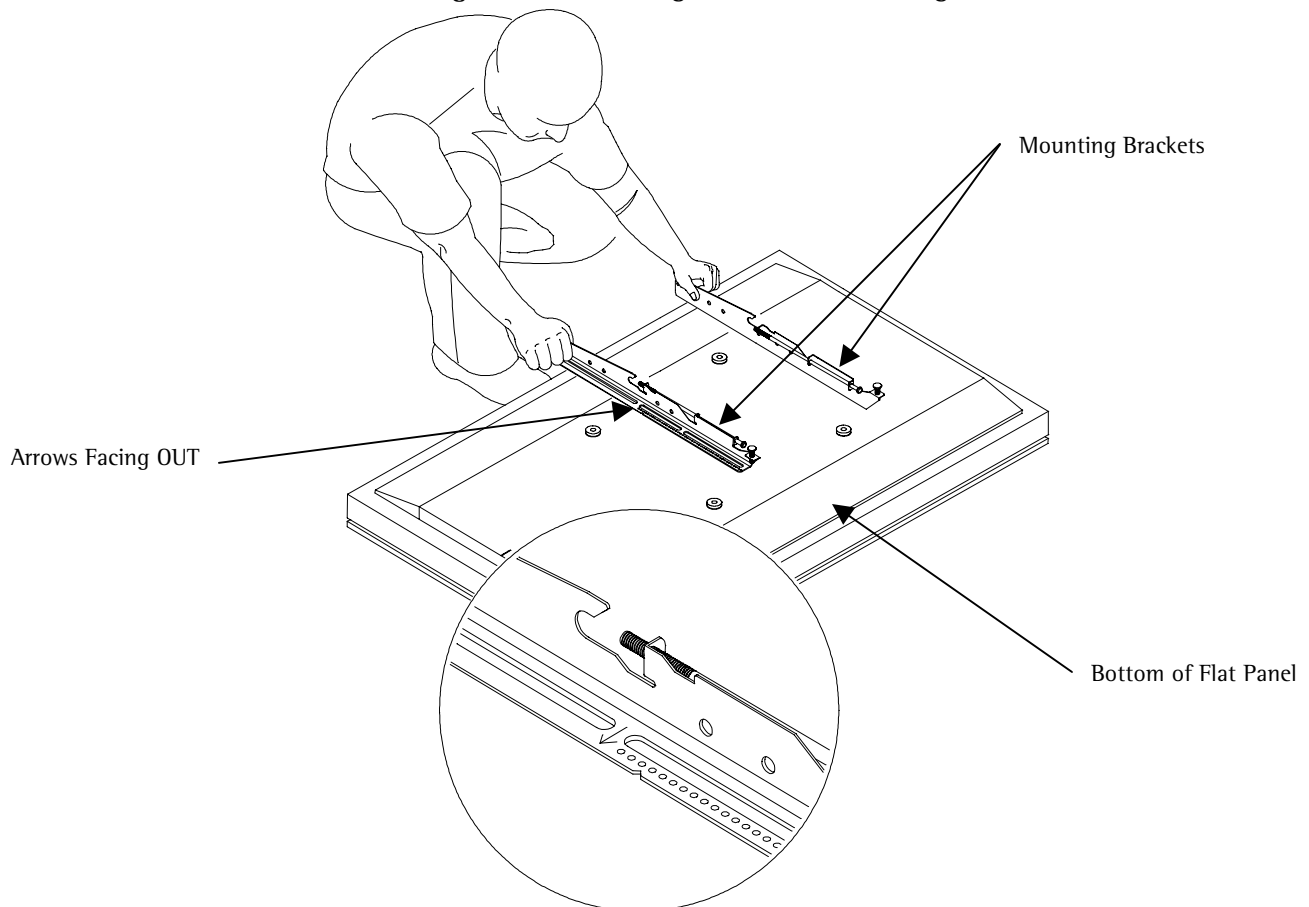

Figure 4. Mounting Bracket Installation
2. Lay the left and right mounting brackets (stamped arrows facing out) (Figure 4).